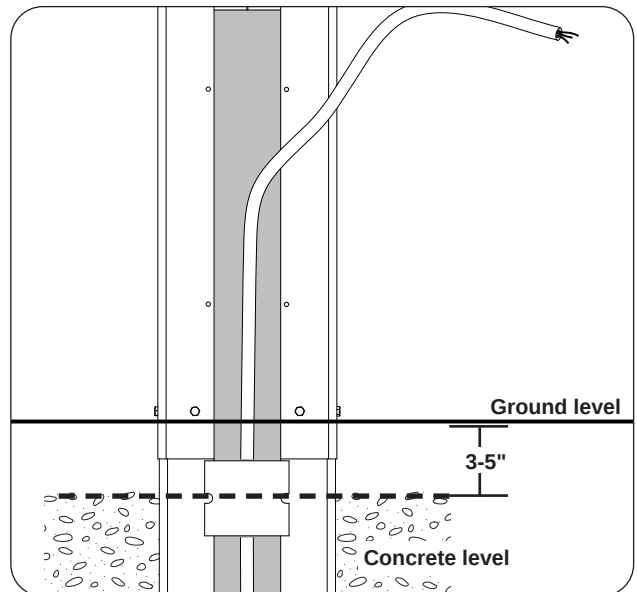

Fig. 30-2 Remove access plate and knock-out
1. Where the electrical wiring is exiting the ground, dig a hole for the post and extension approximately 18" wide, 12" front-to-back, and 18 $\frac{1}{2}$ " deep. See Fig. 30-2.
3. Carefully orient the post over the electrical supply line and into the installation hole. Verify proper positioning. See Fig. 30-2.
5. Pour the concrete mixture into the hole to approximately 3-5" below the ground level taking care to protect the electrical wiring. See Fig. 30-2.